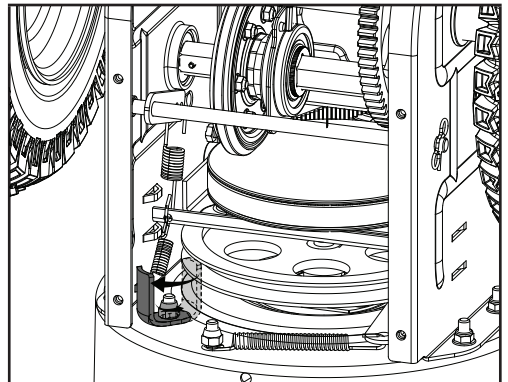

Figure 32A
- Slip the new auger drive belt into the compartment from the bottom of the snowblower placing it around the bottom of the auger drive pulley and slipping it around the front pulley on the engine. Ensure the belt is positioned between the bottom belt guard and the bottom of the auger drive pulley. You may need to remove the bolt holding the lower belt guard in place to properly seat the belt into the pulley, replace the belt guard and bolt after installing the belt into the pulley (Fig. 32A/B).